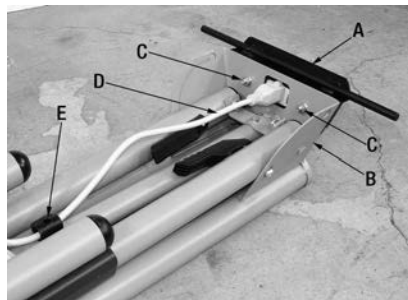

FIGURE 2A
- 1) Install the wheel shaft/power bar assembly (A) Fig.2A to the stand frame (B) using two cap screws, washers, spring washers and hex. nuts (C).
- 2) Attach power cord (D) to the rear of the power bar and attach power cord in cord clip (E).